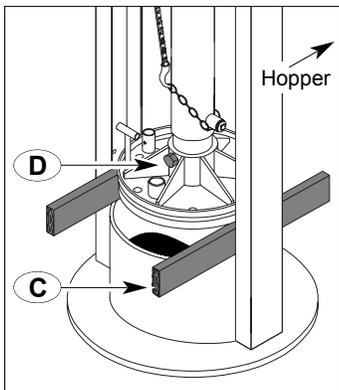

fig. 5
9. Crank the winch to lift the piston until the seals are about 4" out of the pumping tube — *fig. 5*.
10. Place the wood pieces 3/4" x 3" x 12" under the edge of the piston — *fig. 5 detail C*.
11. Crank the winch to lower the piston on the wood pieces, remove the bolt at the bottom of the cylinder and lift it out of the way to work freely — *fig. 5 detail D*.
The lower part of the piston have a biased point which must face the outlet guillotine of the Magnum — *fig. 8*. Before beginning assembly of the piston, place this lower part of the piston in the pumping tube on the wood pieces — *fig. 5 page 38*.